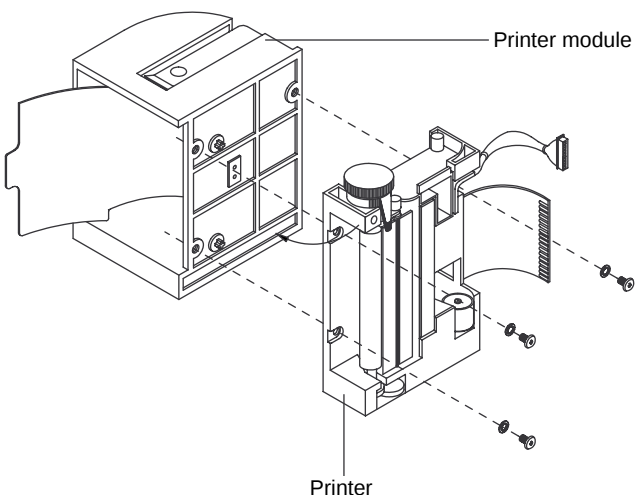

Figure 6-18: Disconnecting Printer
6. Disconnect the printer from the printer module by removing the three mounting screws as illustrated in Figure 6-18.
8. Reconnect the printer to the printer module by replacing the three mounting screws as illustrated in Figure 6-18.